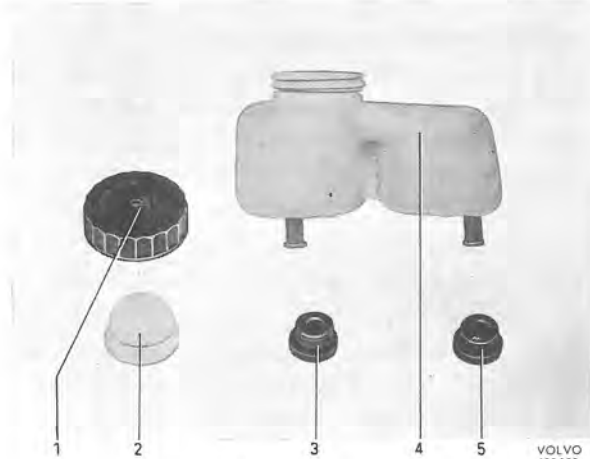
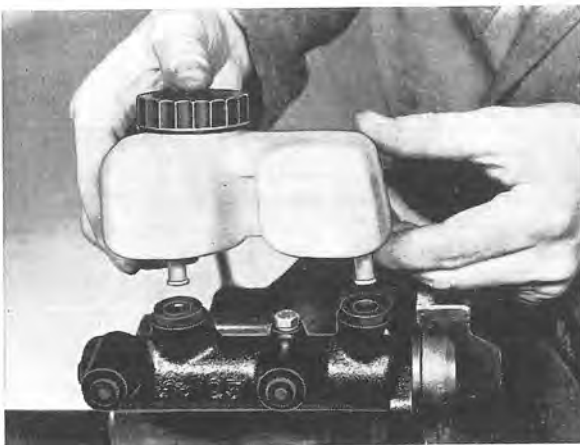
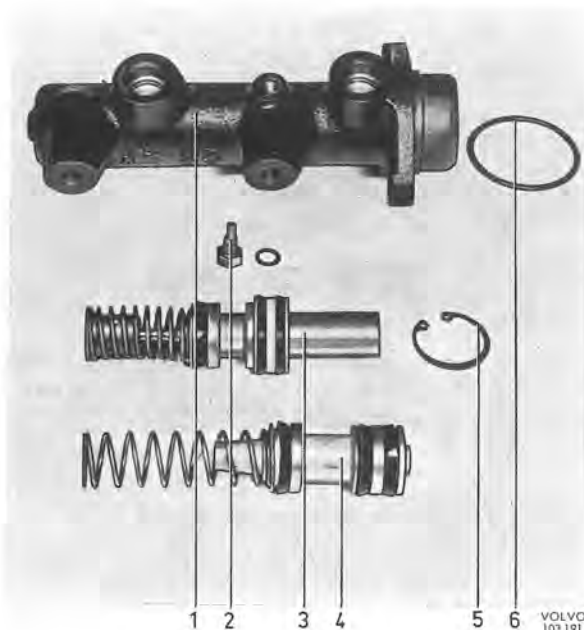
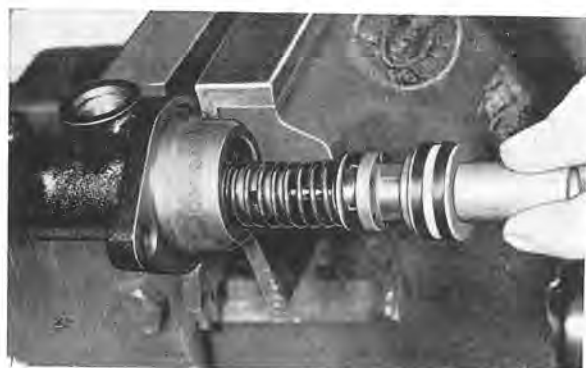

Fig. 5-46. Container parts
Fig. 5-45. Removing container
Fig. 5-48. Master cylinder disassembled
Fig. 5-52. Fitting primary piston
1. Fix the flange of the master cylinder firmly in a vice, see Fig. 5-45.
2. Place both hands under the container and pull it up from the rubber seals. Remove the filler cap and strainer from the container and also the rubber seals from the cylinder, see Fig. 5-46.
If wear on the cylinder or secondary piston is suspected, the diameter should be measured with a micrometer or indicator. The cylinder bore must not exceed 23.92 mm (0.942") and the diameter of the piston may not be less than 23.66 mm (0.931"). Each time reconditioning is carried out, replace the primary piston (3, Fig. 5-48) and the secondary piston (4, Fig. 5-48) complete as well as the stop screw (2) with washer and circlip (5), also the sealing ring (6). Moreover, the rubber seals (Fig. 5-46) for the container should be replaced.
4. Dip the piston and the seals in brake fluid and fit the piston in the cylinder, see Fig. 5-52. Press in the piston and fit the circlip (5, Fig. 5-48).
5. Check that the hole for the stop screw is clear and fit the screw (2, Fig. 5-48) with a new sealing washer. The tightening torque is 5–8 Nm (3.6–5.7 lbft).
- Fit the rubber seals (3 and 5, Fig. 5-46). Fit the brake fluid container, see Fig. 5-45. Fill the container with brake fluid and bleed the cylinder. Place plastic plugs in the cylinder. Check to make sure that the vent-hole in the cap (1) is open and fit the strainer (2) and cap in position.